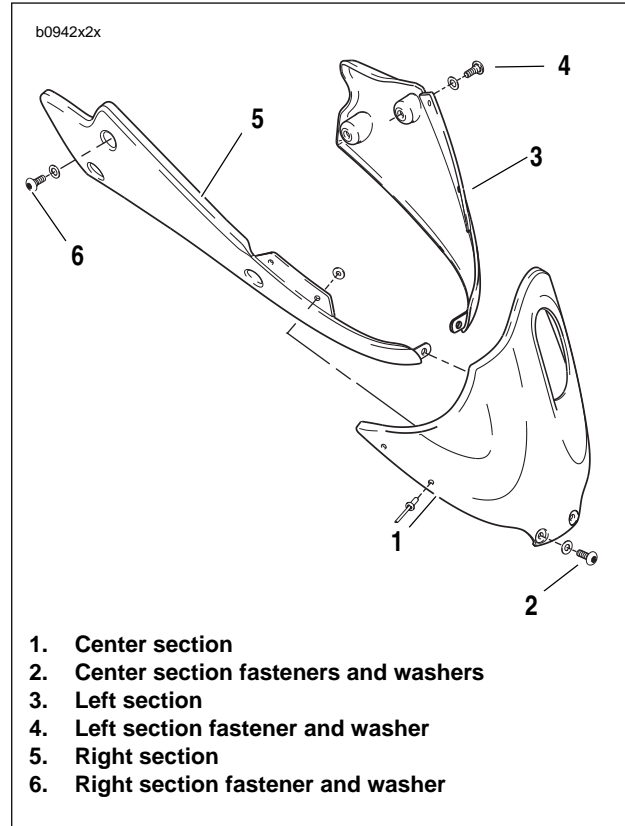

Figure 2-110. Chin Fairing Assembly
3. See Figure 2-110. Remove center section fasteners and washers (2).
4. Remove left section fasteners and washers (4).
5. Remove right section fasteners and washers (6).
1. See Figure 2-110. Position chin fairing (5) and install with right side fasteners and washers (6).
2. Align left section (3) and install with left side fasteners and washers (4).
4. Align center section (1) and install with center section fasteners and washers (2). Use LOCTITE 272 (red) on all fasteners tightening to 36-48 **in-lbs** (4-5 Nm).